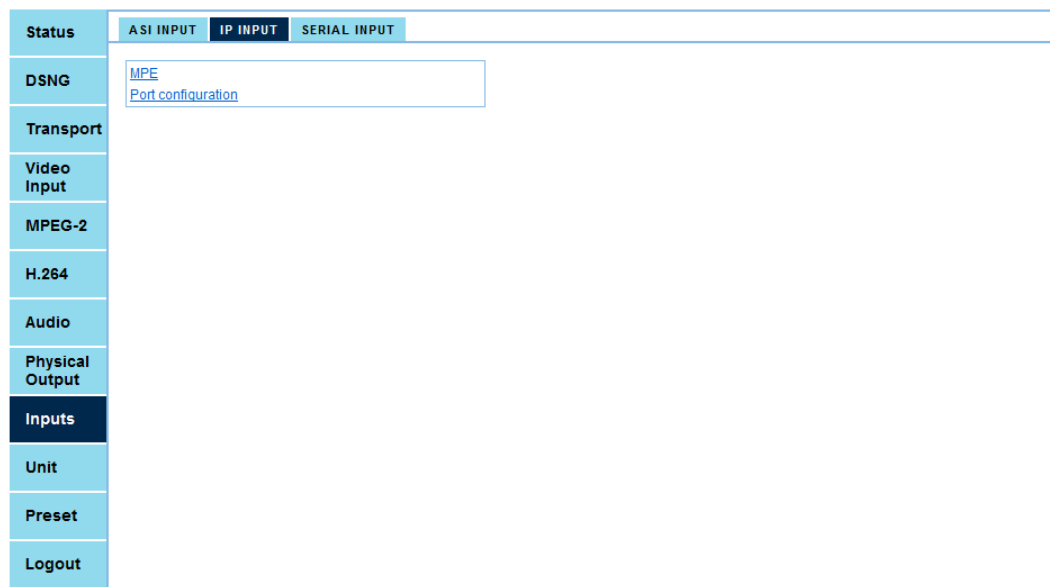

Figure 8–3: IP Input Web Managed Menu Display
- ❖ Select **Inputs > IP INPUT**. (See Figure 8–3).